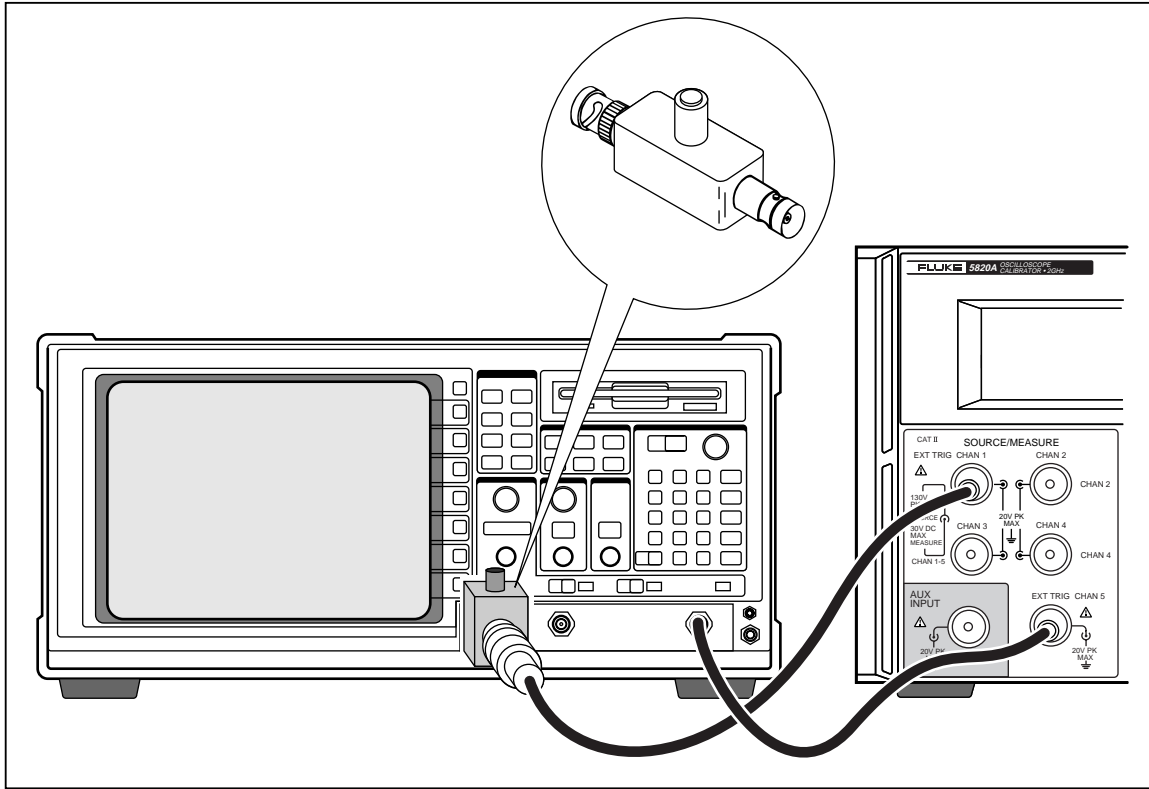

Figure 4-2. Tunnel Diode Pulser Connections
1. Connect the calibrator, tunnel diode pulser, and oscilloscope as shown in Figure 4-2.